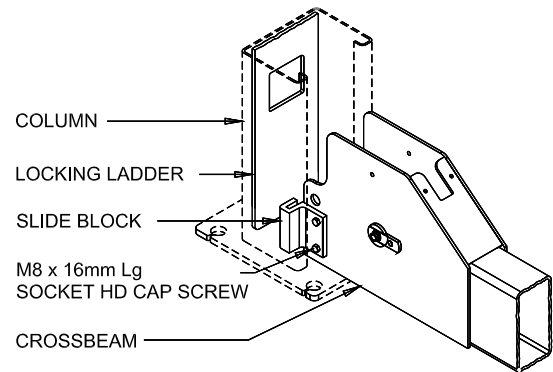

Fig 8 – Slide Block Installation
- 12) Slide power side column onto cross beam until the 8mm threaded holes in the side of the beam are just exposed. Position slide blocks as shown in Fig 8 and attach with M8 x 16mm bolts (apply thread locking compound before installing).